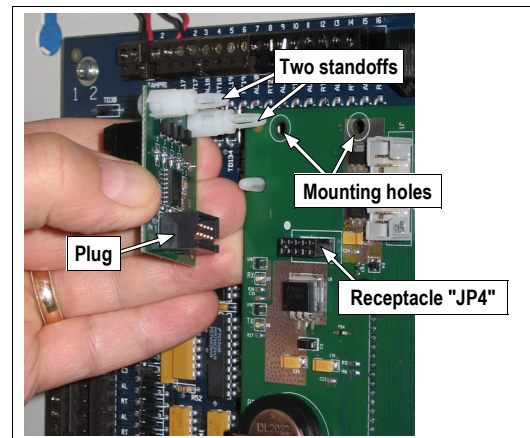

Fig. 3: Align the two snap-lock standoffs and plug with the Accelerator board holes and receptacle.
4. **Align the board:** Use the image in Fig. 3 to find the EIA/RS-232 board mounting location (located near the top of the
CICP18ACCBBD Accelerator board). Carefully align the two EIA/RS-232 board snap-lock standoffs with the two Accelerator PC board mounting holes. Then align the EIA/RS-232 board plug with the Accelerator board receptacle (JP4) as shown in Fig. 3, below.